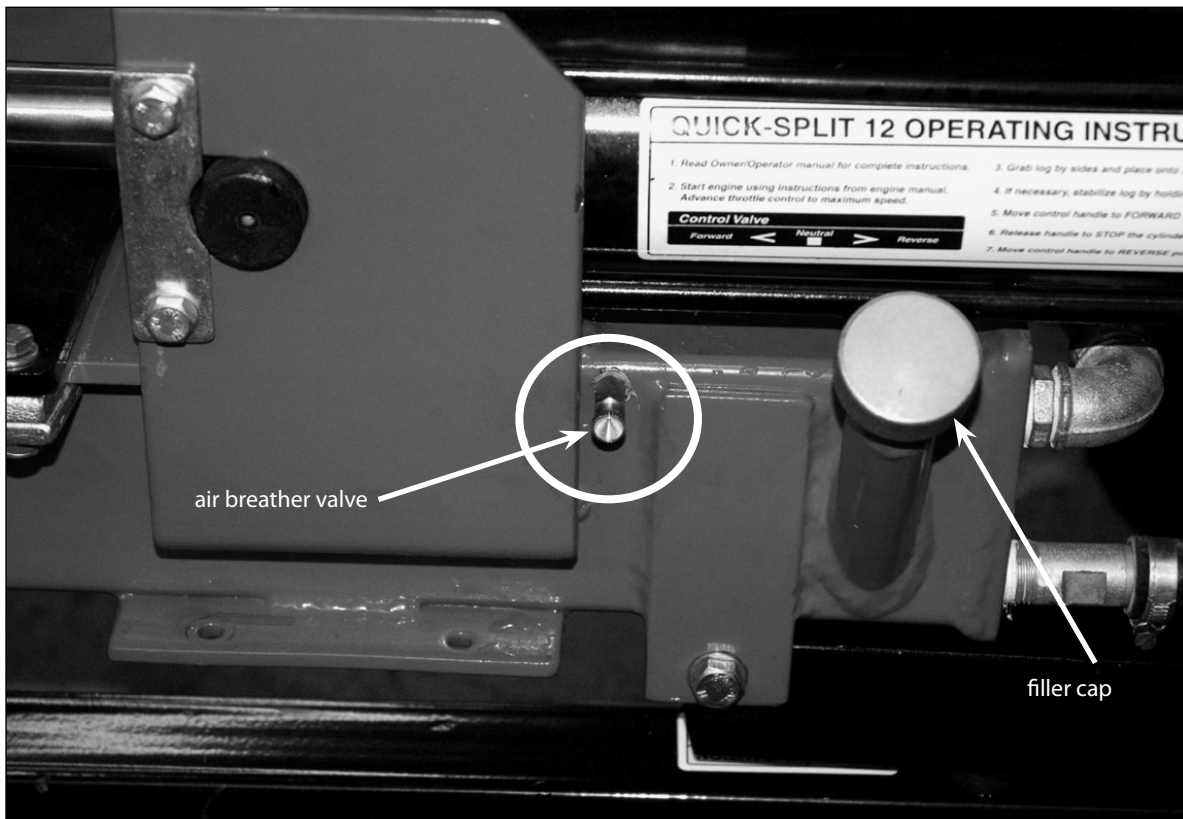

Figure 24
1. Open the air bleeder valve by turning counter clockwise approximately four turns. Failure to open vent will cause "air locking", making filling of the hydraulic tank reservoir difficult. **SEE FIGURE 24.**
2. Remove filler cap. **SEE FIGURE 24.**